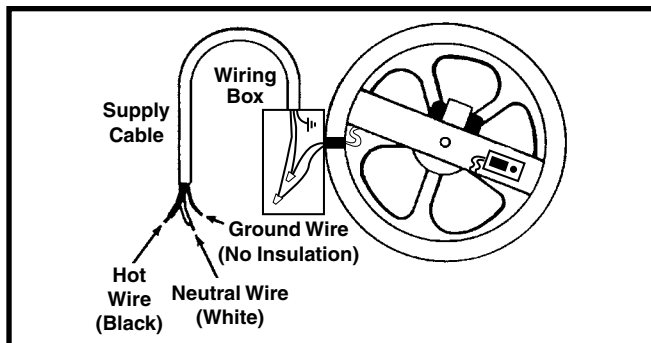

Figure 8. Hot, Neutral, & Ground Wire Connections
- b. Connect HOT wire to BLACK lead and NEUTRAL wire to WHITE lead. Secure connections with suitable wire nuts. See Figure 8 (page 4).